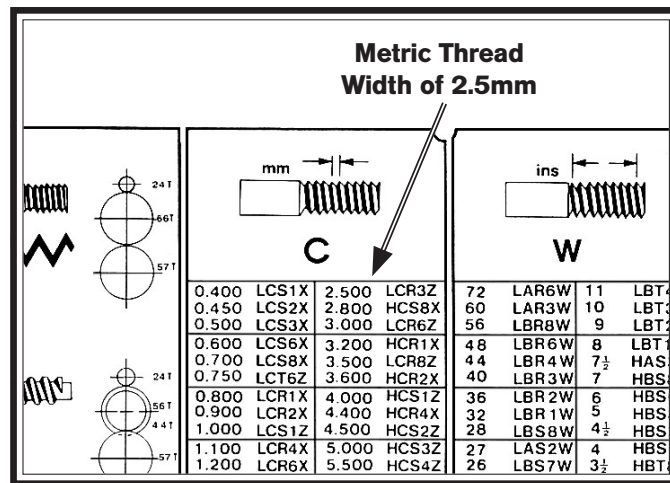

Figure 77. Metric thread chart.
- Locate the line in the metric thread chart that lists the setting for 2.5mm threads, as illustrated in **Figure 77**.